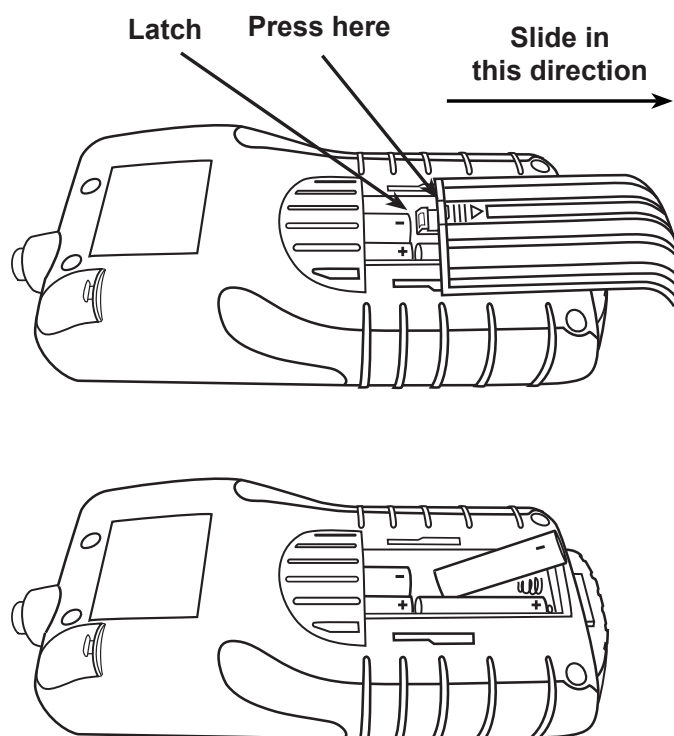

Figure 22: EXP Battery Replacement
5. Insert new batteries as shown in *Figure 22*. Make sure the positive and negative terminals are positioned correctly.